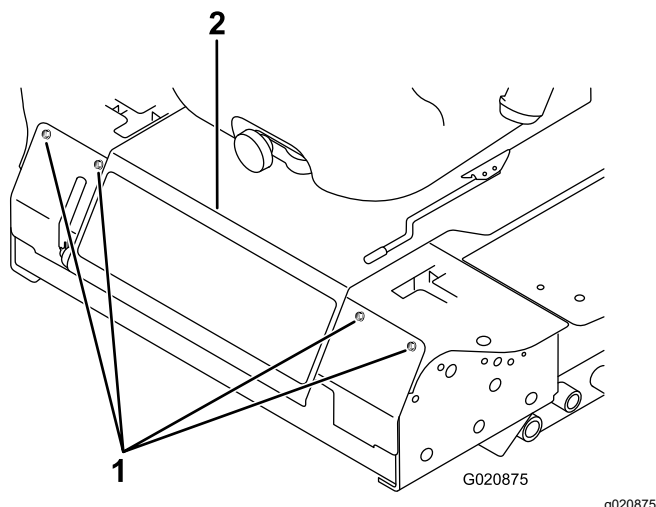

Figure 48
2. Remove the bolts securing the front panel and remove the panel (Figure 48).